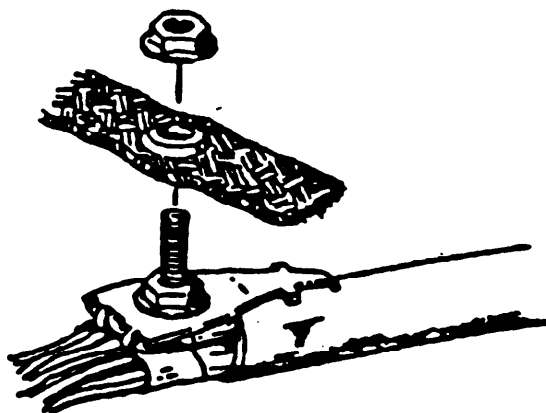

Figure 5.4 - Application of Bond Braid
5.04 If bond braid or additional grounding or bonding hardware is used, install it above the first nut and secure it with the additional nut. See Figure 5.4.